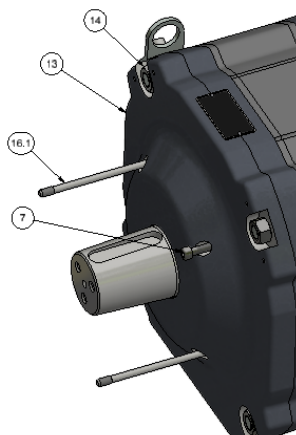

Fig. 5
- Assembly the endshield as per Figure 5
- Screw the 2 screw Pos. 7 in the 2 free holes (using Loctite 243) as per Fig 5 until they begin to resist